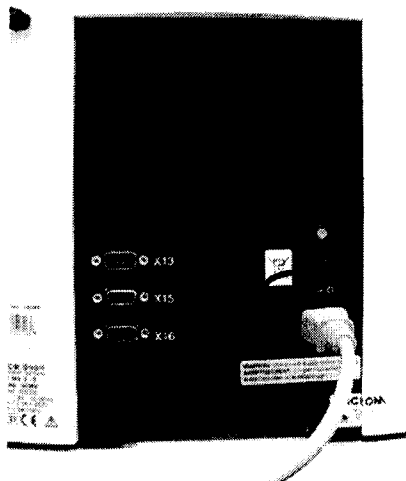

Figure 1
1. Make sure that the instrument is switched off at the main switch (Figure 1) at the back side of the microtome.
3. Switch the microtome on at the main switch (Figure 1).